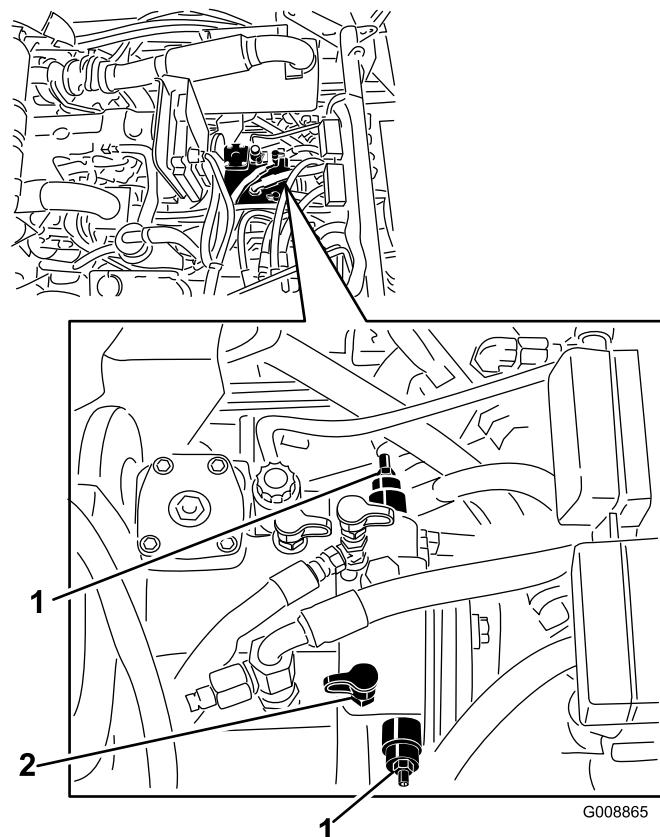
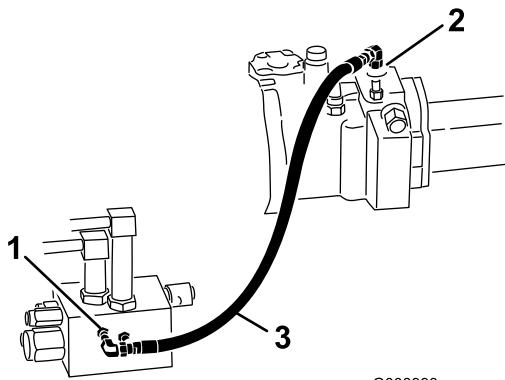

Figure 35
Figure 36
1. Raise the hood and locate the bypass valves on the sides of the pump (Figure 35).
2. To actuate the tow valves, loosen the jam nut on each bypass valve stem (Figure 35).
Important: If the machine must to be pushed or towed in reverse, the check valve in the four-wheel drive manifold must also be bypassed. To bypass the check valve, connect a hose assembly (Hose Part No. 95-8843, Coupler Fitting No. 95-0985 [Qty. 2], and Hydraulic Fitting No. 340-77 [Qty. 2]) to the reverse traction pressure test port (Figure 35. and Figure 36). and the reverse four-wheel drive pressure port (Figure 36).